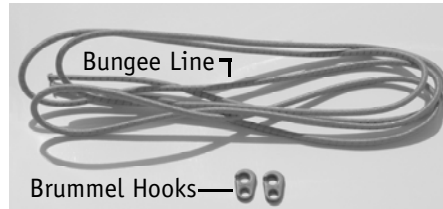

Figure: 54
1. Locate the Daggerboard, bungee line, retainer line, daggerboard handle line and brummel hooks (2) from the line bag and delivery kit (Figure 54).